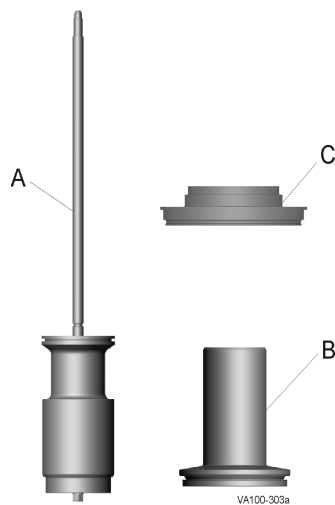

Figure 16 Stem Removal
2. To remove the upper stem (Figure 16, item B), hold the adjusting sleeve with the spanner wrench, turn the stem counter-clockwise, and remove it from the actuator. If the adapter (Figure 16, item C) comes out of the yoke, handle it with care.